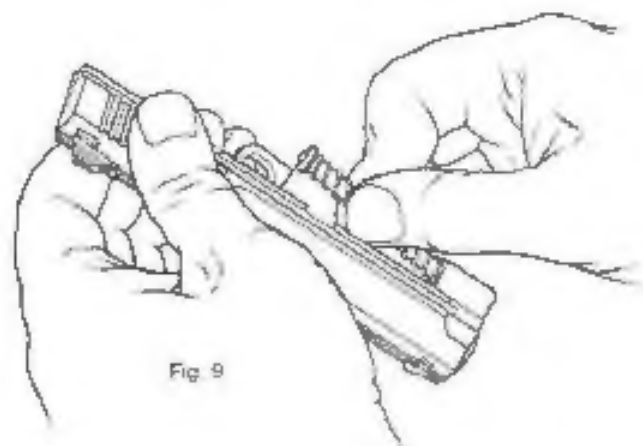

Fig. 9
**Removal of the recoil spring assembly. (Fig. 9)**